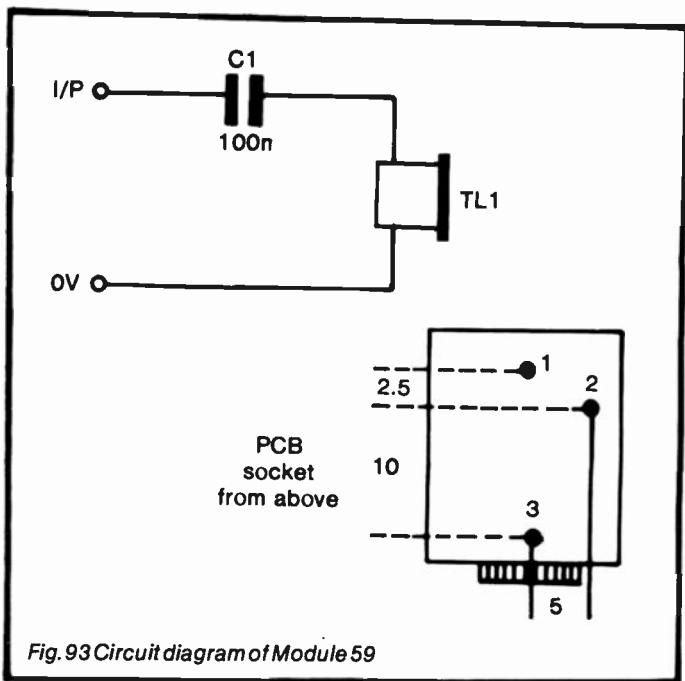

Fig. 93 Circuit diagram of Module 59
**Circuit diagram:** see Figure 93.
*Stripboard layout:* wire link – C6 to K8. R1 – K7 to L7. R2 – A5 to K5. R3 – M11 to O11. C1 – I3 to L3. TR1 – K9(c), L9(b), M9(e). Socket (see Fig.93) – C8(1), A9(2), C13(3). Terminal pins – A1, A15, I1, O1, O15.
**Circuit diagram:** the circuit is the same as in Figure 93, except that a crystal sounder replaces the earphone.